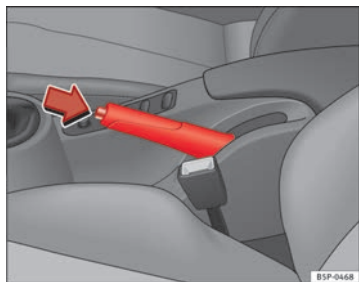

Fig. 152 Handbrake between the front seats
- Pull the handbrake lever up firmly ⇒ Fig. 152.
- Pull the lever up slightly and press the release knob in the direction of the arrow ⇒ Fig. 152 and guide the handbrake lever down fully ⇒ ⚠.